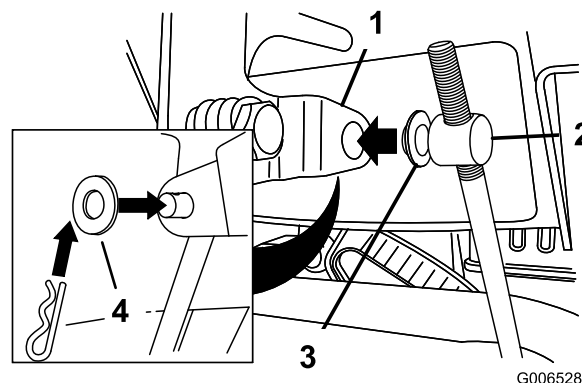

Figure 6
3. Remove the hairpin cotter and the outer washer from the trunnion on the upper end of the speed control rod (Figure 6).
Note: To make installation easier, leave the inner washer on the trunnion (Figure 6).
6. Lift up on the speed control rod and insert the trunnion into the hole in the speed selector lever (Figure 6).
- B. Disconnect the trunnion from the speed selector lever (Figure 6).
C. Turn the trunnion downward (clockwise) on the speed control rod (Figure 6).
D. Connect the trunnion from the speed selector lever (Figure 6).
B. Disconnect the trunnion from the speed selector lever (Figure 6).
C. Turn the trunnion upward (counterclockwise) on the speed control rod (Figure 6).